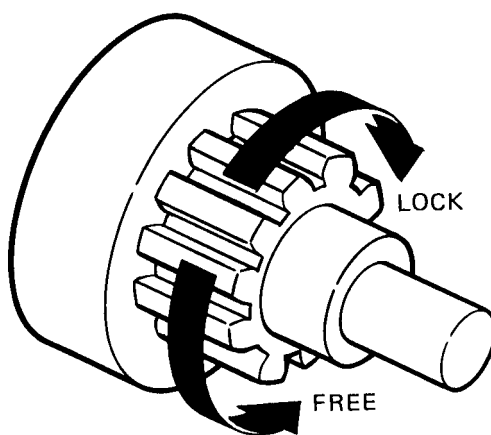

Figure 7-10. Overrunning Clutch.
- (6) Inspect armature shaft gear, bushings, reduction gear, and pinion gear for wear or damage. Replace any part that is damaged.
- (7) When pinion gear is placed upon the overrunning clutch, the pinion gear should turn freely in one direction and lock when turned in the opposite direction. Refer to Figure 7-10.